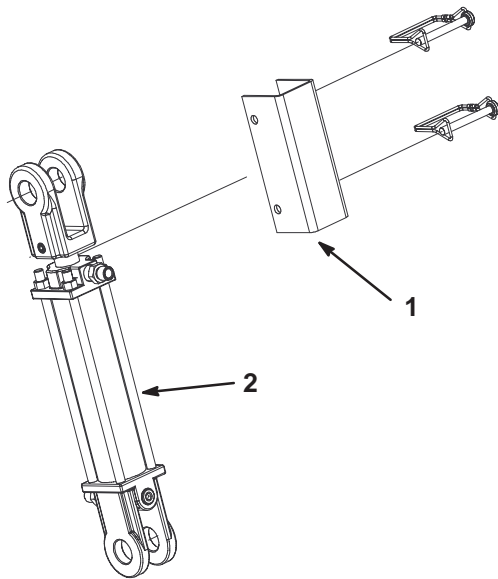

Figure 7
- Be sure the deck is raised and the casters cannot contact the ground during transport. Also, make sure the cylinder lock bar (Fig. 7) is in place to prevent the lift cylinder from compressing during transport.